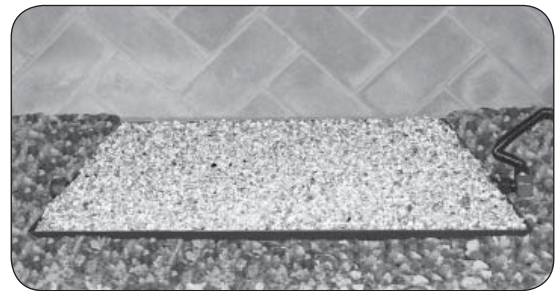

Fig. 10-3 Place vermiculite
2. Fill the burner pan completely with the supplied bag of vermiculite (see Fig. 10-3). The vermiculite is poured directly onto the already placed sand.